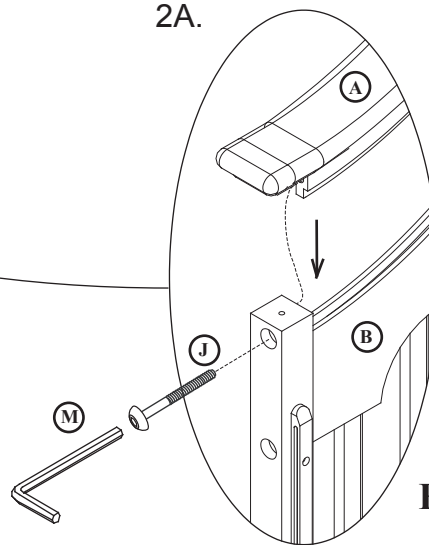

Figure 2A
Insert the tenon of the Crib ends up(A) into the slots of Crib ends bottom(B), then insert the 2" bolts(J), through the legs into the threaded insets onto the crib ends up (A) as shown in Figure 2A.